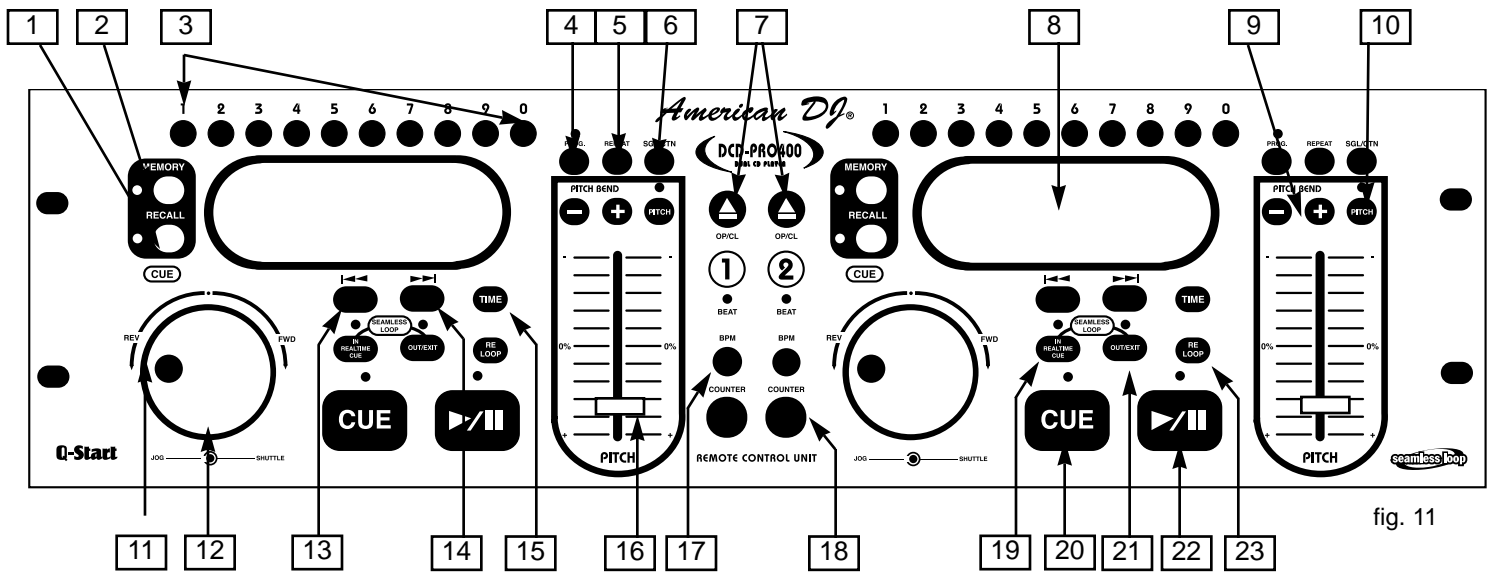

fig. 11
A. Remote unit front (figure 11)
**3. DIRECT TRACK ACCESS BUTTONS** - (1 to 10) These buttons are used to select a particular track number starting point. They are also used in **MEMORY (2)** and **RECALL (1)** modes.
**10. PITCH** - +/- 8%, +/-12%, +/-16% (Pitch Button)- This button activates the Pitch Slider (14). Select percentage (%) of pitch by holding the PITCH BUTTON. When pitch LED is lit, press down the PITCH BUTTON and tap the PLUS BUTTON (+) (9) until desired pitch percentage (%) is reached.